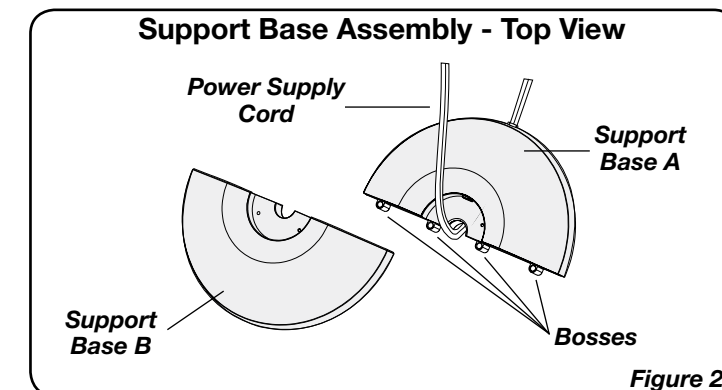

Figure 2
4. Assemble the Bases by interlocking the **Bosses** on **Support Base A** into the **Boss Holes** on **Support Base B**. Thread the **Power Supply Cord** through the large hole in the center of the Support Base Assembly. (*Figure 2*)